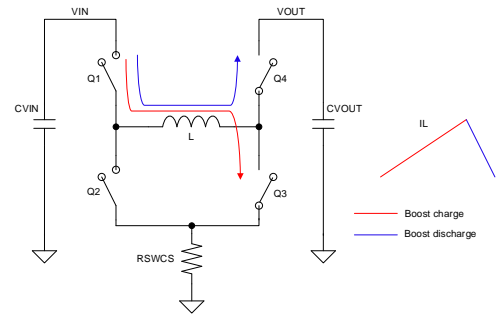

Figure 9. $V_{IN} \ll V_{OUT}$: Boost Mode
- When V_{IN} is much less than V_{OUT} , the device operates in Boost mode, as shown in Figure 9.